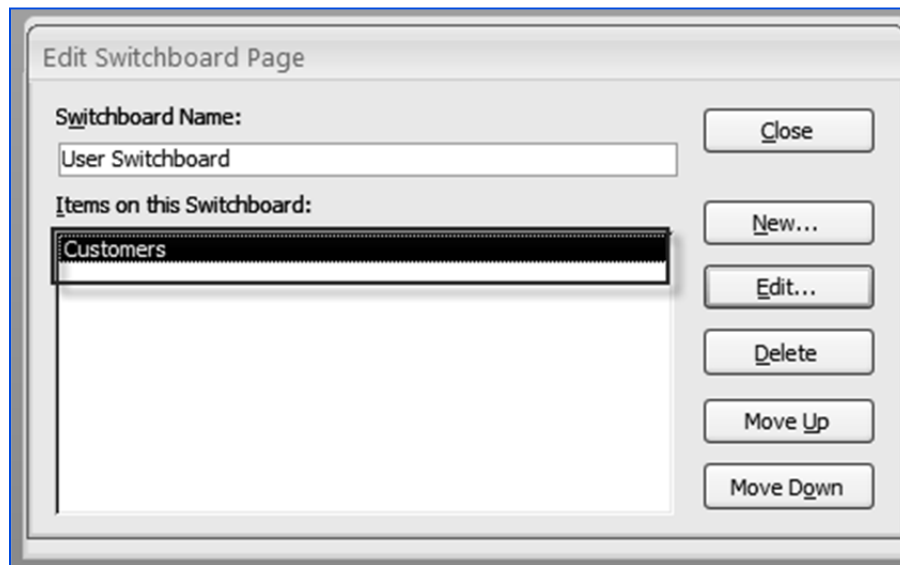

Fig. 4.3.10: Customers Button
8. Click *OK* to close the *Edit Switchboard* window, the created button appears in *Items on the Switchboard* tab, as shown in Fig. 4.3.10.